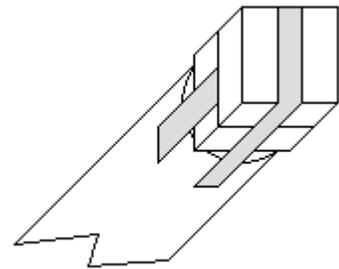

Figure 1
1. Tape each of the 1 1/4" x 1/4" pieces of 1/4" closed cell foam to the end of the sword, using strapping tape. Your sword will now look like figure 1.